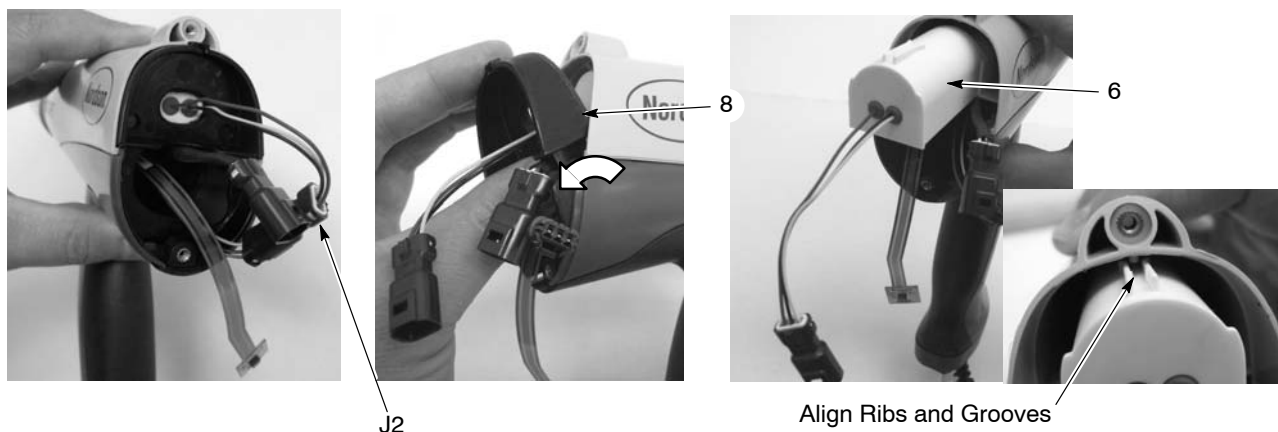

Figure 5-2 Power Supply Replacement
2. See Figure 5-2. Insert a small screwdriver into the recess in the J2 gun cable/power supply connectors to release the catch and disconnect the connectors.
3. Pull on the top of the bulkhead (8) to remove it from the gun.
4. Slide the power supply (6) out of the gun body and pull the power supply leads and connector out of the bulkhead.
11. See Figure 5-2. If you removed the power supply, slide it into the upper cavity of the gun body, guiding the guide ribs inside the gun body between the mating grooves on the power supply.